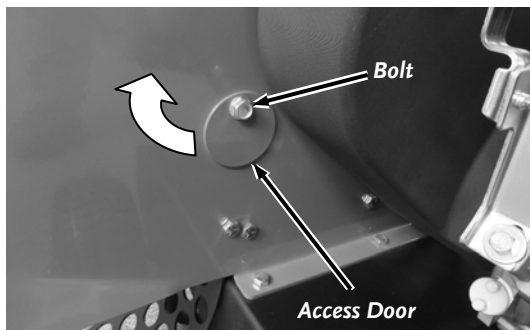

Figure 28
3. Loosen the Bolt on the Access Plate using a 1/2" Wrench, rotate the Plate out of the way and then tighten the Bolt to hold it in place (**Figure 28**).